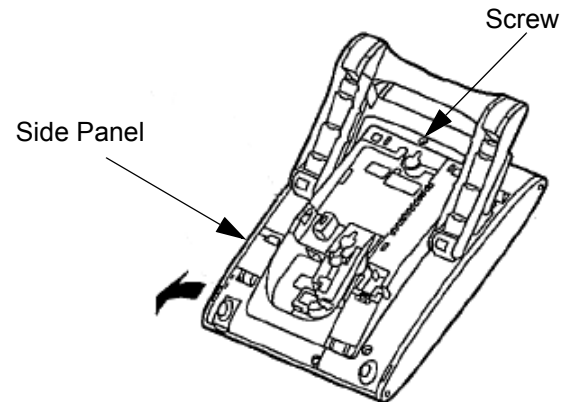

Figure 5-94 Install Screw
12. Install the screw (refer to Figure 5-94 Install Screw).